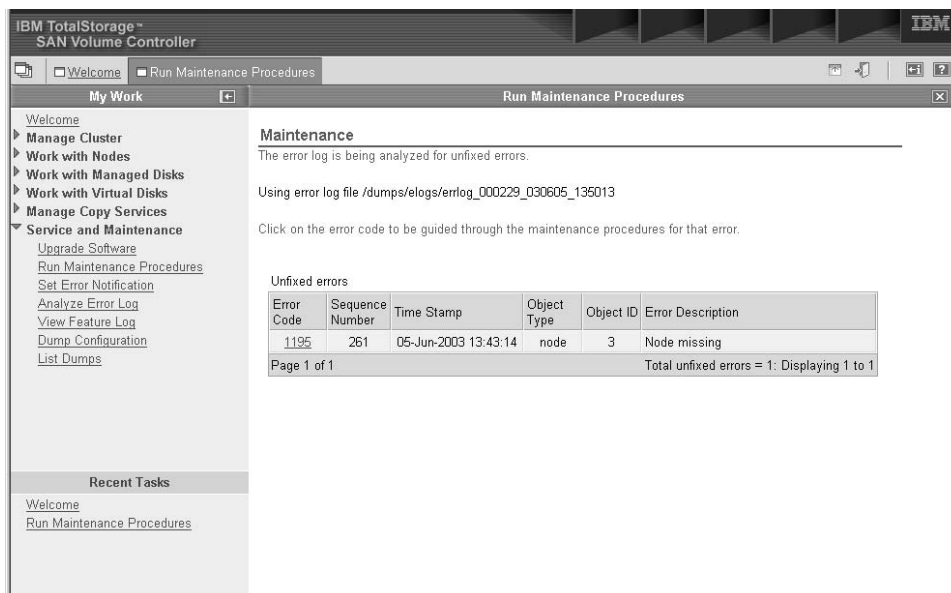

Figure 50. Example of what is displayed when you start analysis
2. From the panel for Maintenance Procedures, click Start analysis to display what is shown in Figure 50.
Figure 50 shows a list of unfixed errors. This example shows that only one error needs to be repaired. The list might contain any number of errors that need to